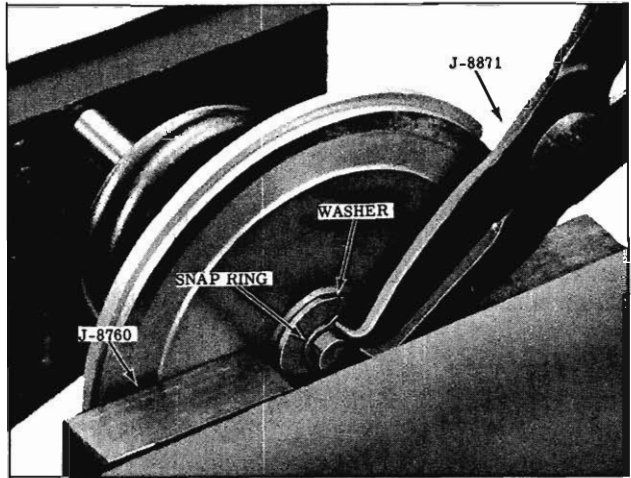

Fig. 6-73 Servo Disassembly
1. Position Speedometer Gear Puller Adapter J-8760 against the servo piston and place the piston assembly and spacer between the jaws of a bench vise. (Fig. 6-73)